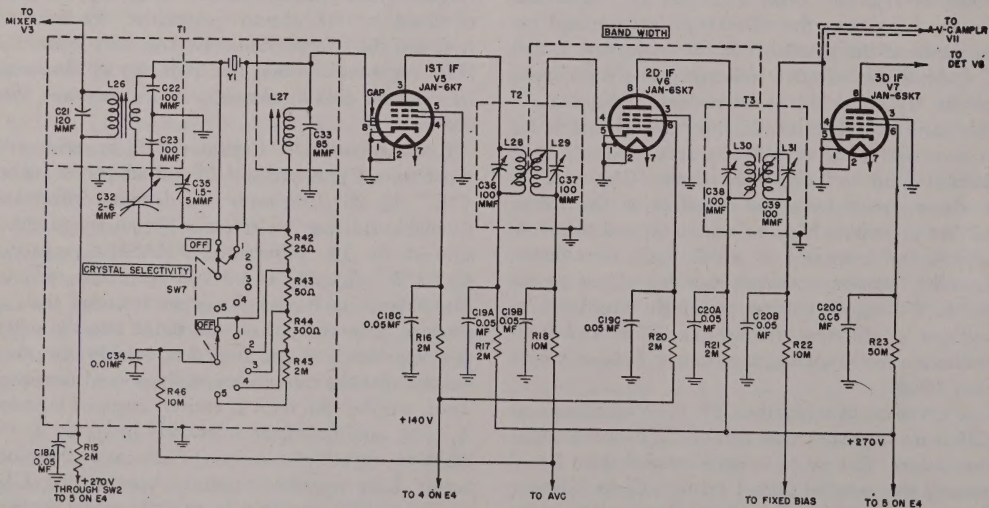

Figure 29. Radio Receiver BC-779-B, functional diagram of i-f amplifier.
62. I-F Amplifier (fig. 29)
a. INPUT STAGE TUBE JAN-6K7 (V5). (1) *CRYSTAL SELECTIVITY switch at OFF.* With the CRYSTAL SELECTIVITY switch, SW7, at OFF, the crystal filter is shorted. Consequently, the i-f signal is applied directly from input transformer L26 to the parallel-resonant grid circuit (permeability-tuned inductor L27 and 85-mmF capacitor C33) and to the control grid (top cap) of V5. C34 places the lower end of L27 at r-f ground potential. Grid bias is applied from the a-v-c line (par. 65) through 10,000-ohm decoupling resistor R46 which is bypassed by 0.01-mf capacitor C34. Plate (pin 3)
a. **A-V-C AMPLIFIER TUBE JAN-6SK7 (V11).** The output of the 2d i-f stage, V6, is applied simultaneously to the 3d i-f stage, V7 (fig. 29),